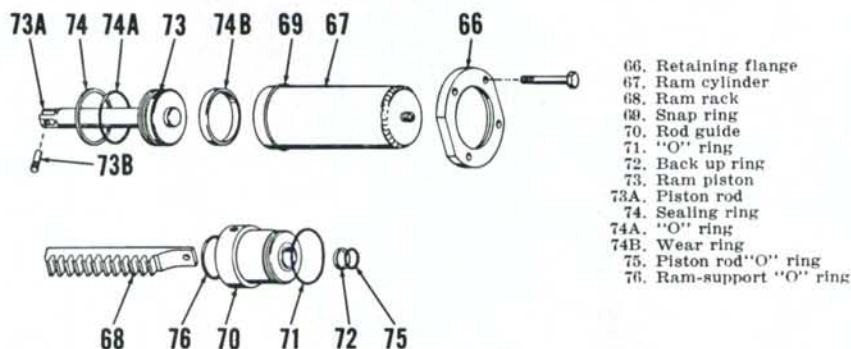

Fig. 15 — Exploded view of the power steering ram (cylinder).
move freely without any backlash. Vary the number of shims (49) if rack is loose or binding. Paper shims (0.005 thick) and steel shims (0.003 thick) should be alternately placed for proper sealing. When proper adjustment is obtained, withdraw the rack (68), leaving the adjusting block (48) and the correct shims (49) installed. Attach rack (68) to the piston rod (73A—Fig. 15) with pin (73B). Head of pin (73B) must be on toothed side of rack (68). Rivet the pin securely in position taking care not to draw ears of piston rod together.
Pull the rack (68—Fig. 15) out of the steering cylinder (67) as far as possible, then mark the rack  $2 \frac{1}{16}$ - $2 \frac{3}{32}$  (2.08) inches from front edge of piston rod guide (70). Push the rack back into cylinder until the mark
**22. R&R AND OVERHAUL.** To remove the steering cylinder (Fig. 15), it is necessary to remove the front support as outlined in paragraph 18, then disassemble the complete front support as in paragraph 19. With cylinder removed, remove rack attaching pin (73B), then withdraw rod guide (70) and piston (73) from cylinder.